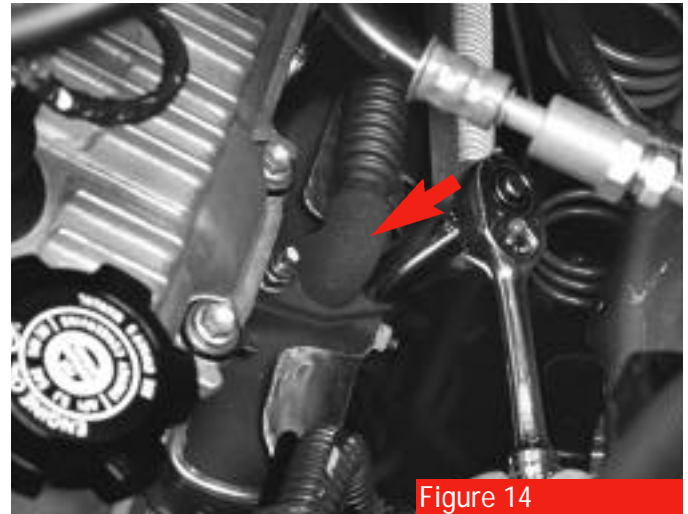

Figure 14
18. A pre-2000 Tacoma or T-100 may be equipped with an EGR valve. To be sure, look for this tube (**see arrow, figure 14**) on the driver's-side exhaust manifold. Remove the valve according to the procedure on page 14.